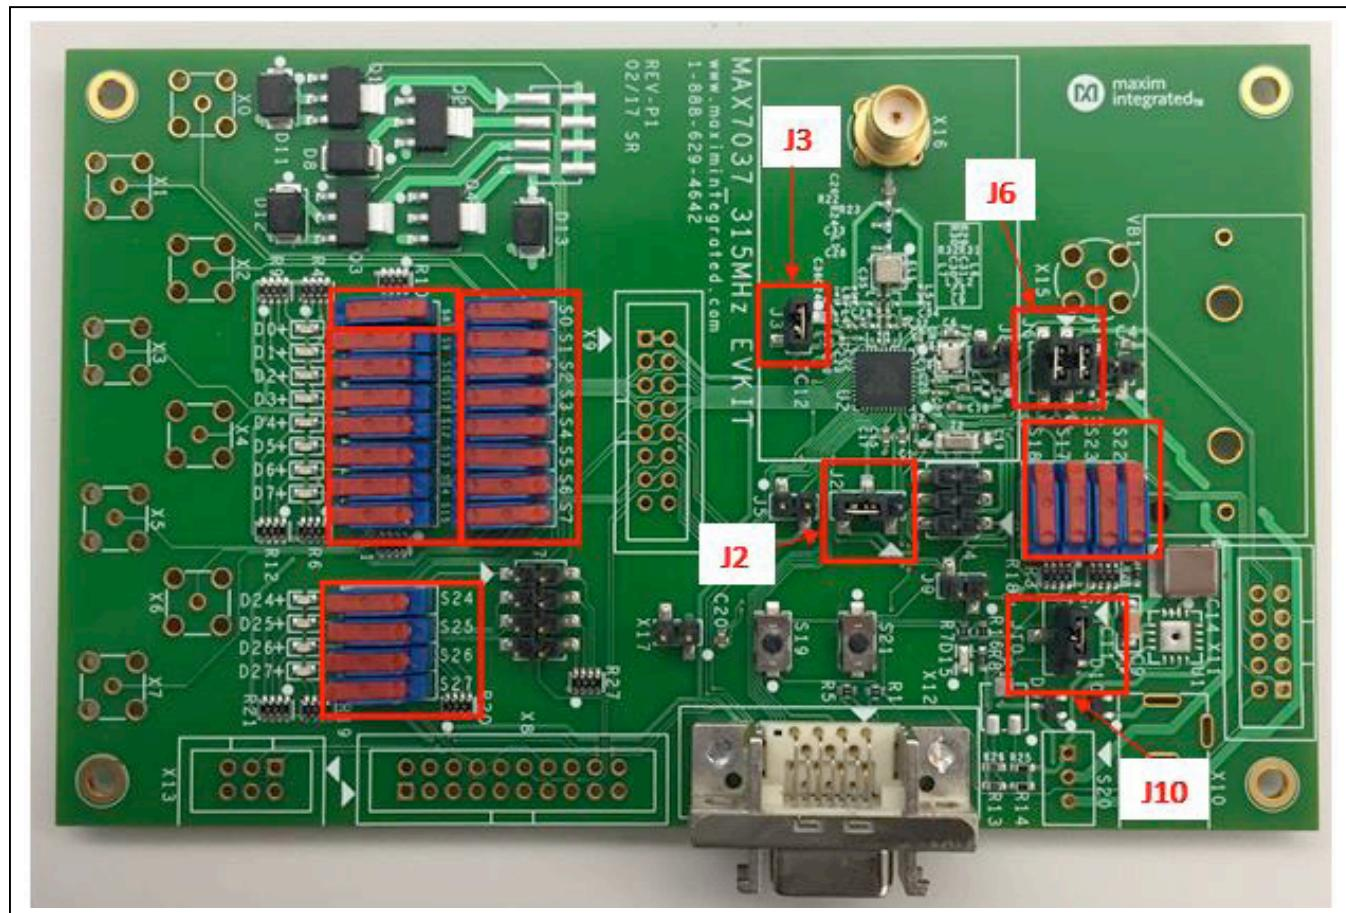

Figure 1. MAX7037 EV Kit Photo Jumpers Location
Shunt J2, J3, J6, J10. J2 has three pins. The two that are shunted are the left-most two pins. J10 also has three pins. The two that are shunted are the top-most two pins. Any jumpers or headers not mentioned here should be left unshorted. Figure 1 shows the location of these jumpers.
- The four-switch DIP labeled S22, S23, S17, and S18 should all be slid to the upper position, as displayed in Figure 1.
- The four-switch DIP labelled S24–S27 should all be slid to the left position, as shown in Figure 1.
- The 8-switch DIP labelled S0–S7 should all be slid to the right position, as shown in Figure 1.
- The 8-switch DIP labelled S8–S15 should have all but the top-most switch slid to the left, as shown in Figure 1. The top switch of this particular DIP (i.e., the S8 switch) should be slid to the right.